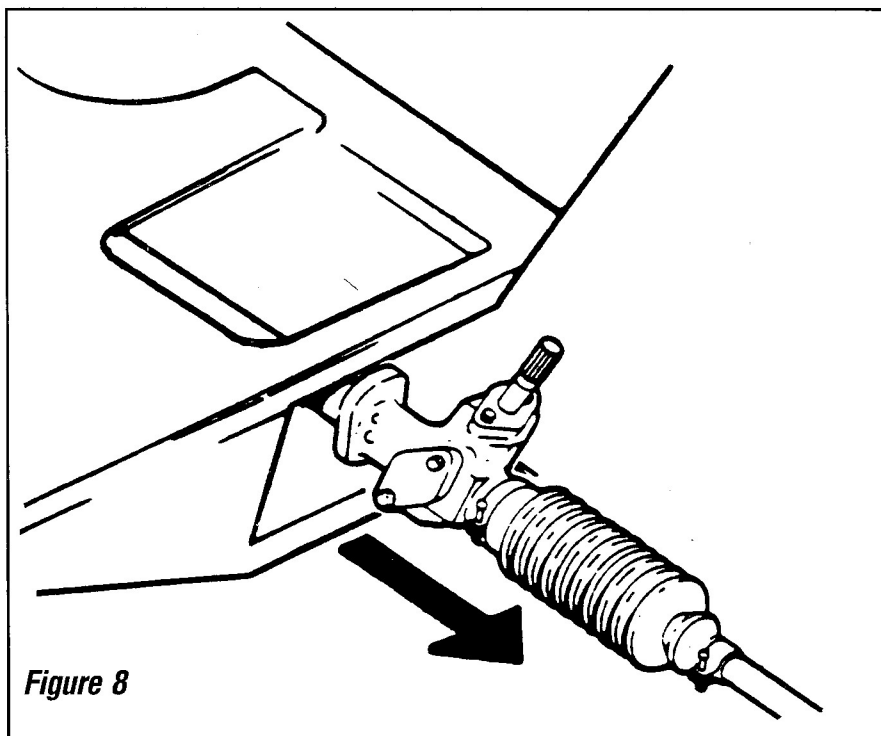

Figure 8
9. Slide rack and pinion assembly out from LH side of chassis frame. *Fig. 8*